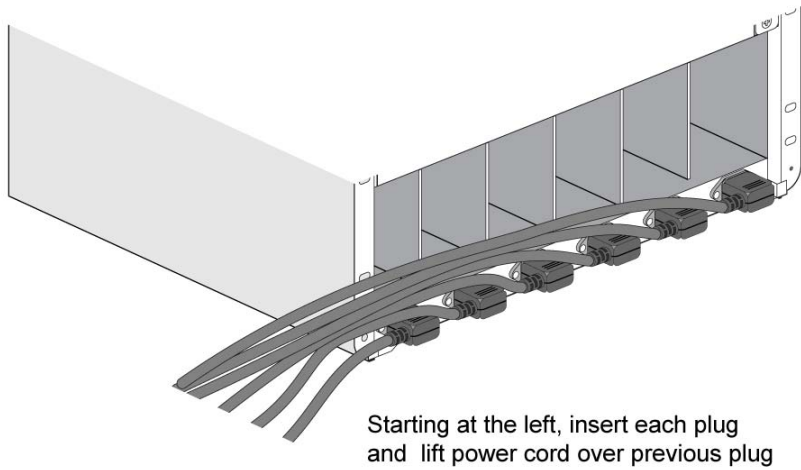

Figure 54. Installing and routing the AC power cords
2. Starting at the left, insert the plug of each power cord into the power connectors on the switch, and lift each installed power cord over the previous plug (see Figure 54).